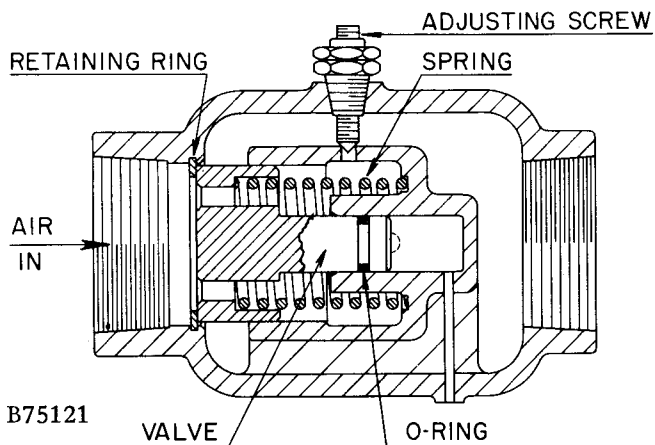

FIGURE 5-4. — MINIMUM DISCHARGE PRESSURE VALVE
**MINIMUM DISCHARGE PRESSURE VALVE** (Figure 5-4) — An internal spring-loaded minimum pressure valve is used in the final discharge line to provide a positive pressure on the oil system of the compressor even when the air service valve is fully open.